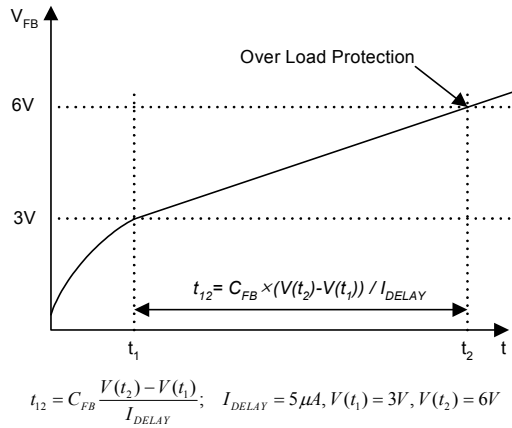

Figure 6. Over Load Protection (OLP)
**4.1 Over Load Protection (OLP)** : Overload is defined as the load current exceeding a pre-set level due to an unexpected event. In this situation, the protection circuit should be activated in order to protect the SMPS. However, even when the SMPS is operating normally, the over load protection (OLP) circuit can be activated during the load transition. In order to avoid this undesired operation, the OLP circuit is designed to be activated after a specified time to determine whether it is a transient situation or an overload situation. In conjunction with the Ipk current limit pin (if used) the current mode feedback path would limit the current in the Sense FET when the maximum PWM duty cycle is attained. If the output consumes more than this maximum power, the output voltage ( $V_o$ ) decreases below its rating voltage. This reduces the current through the opto-coupler LED, which also reduces the opto-coupler transistor current, thus increasing the feedback voltage (VFB). If VFB exceeds 3V, the feedback input diode is blocked and the 5uA current source (IDE-LAY) starts to charge Cfb slowly up to Vcc. In this condition, VFB increases until it reaches 6V, when the switching operation is terminated as shown in Figure 6. The shutdown delay time is the time required to charge Cfb from 3V to 6V with 5uA current source.